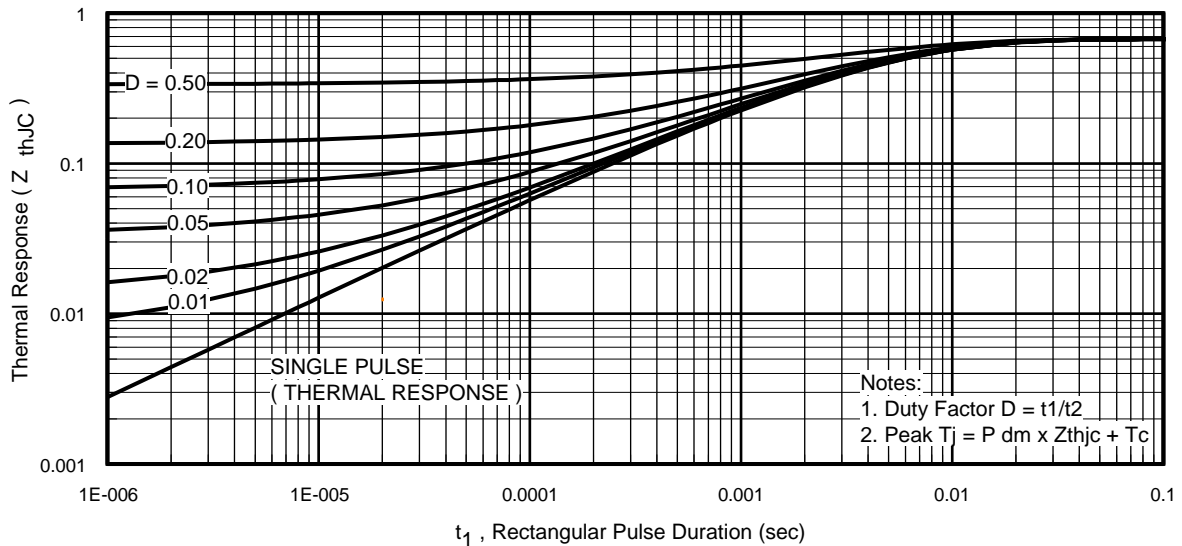

Fig 11. Maximum Effective Transient Thermal Impedance, Junction-to-Case
- ① Repetitive rating; pulse width limited by max. junction temperature. (See fig. 11).
② Limited by T_{Jmax} , starting $T_J = 25^\circ\text{C}$, $L = 0.11\text{mH}$
$Z_{thJC}(D, t_{av})$ = Transient thermal resistance, see figure 11)